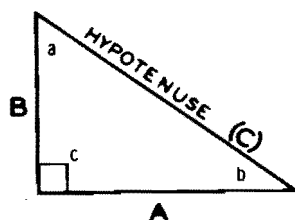

Figure A4
12. (b) The side of the triangle directly opposite the right angle is called the hypotenuse. See Figure A4. The hypotenuse is side C.